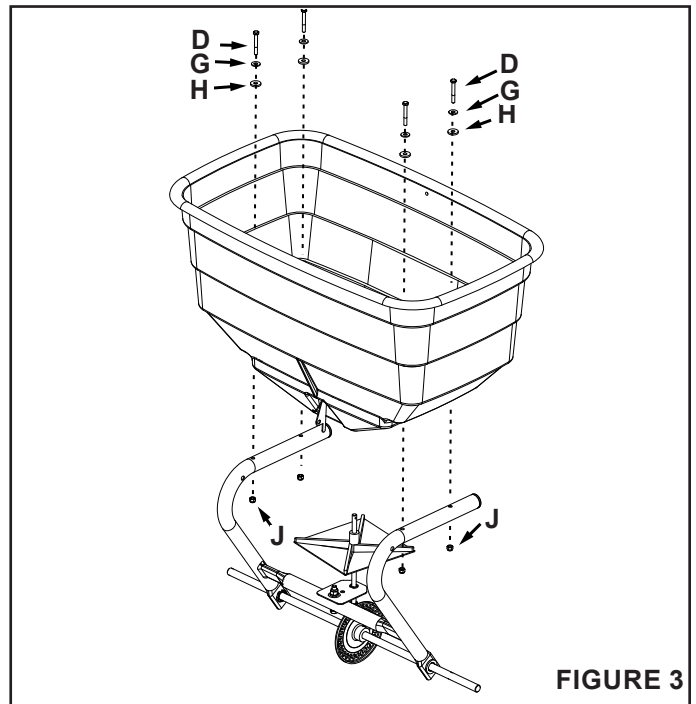

FIGURE 3
STEP 3: (SEE FIGURE 3)
- Attach the hopper to the frame assembly using four nylon washers (H), washers (G), and 1/4" X 2" bolts (D). Secure using four 1/4" nuts (J). See figure 3.